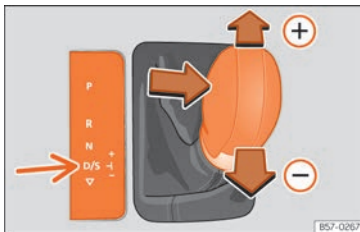

Fig. 89 Lever in the Tiptronic position
- Move the lever forwards (+) or backwards (-) to change up or down a gear »» Fig. 89.